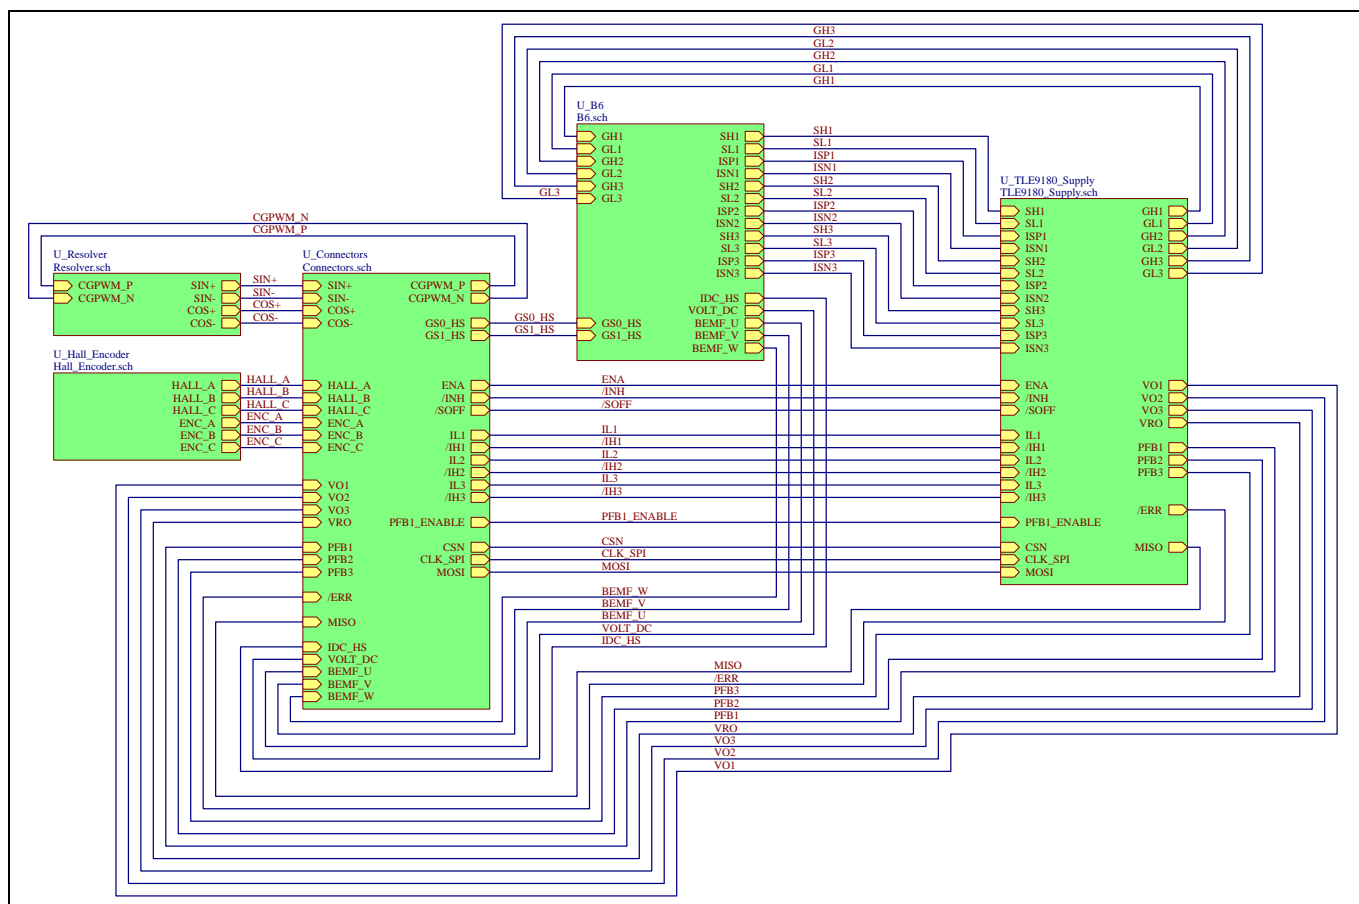
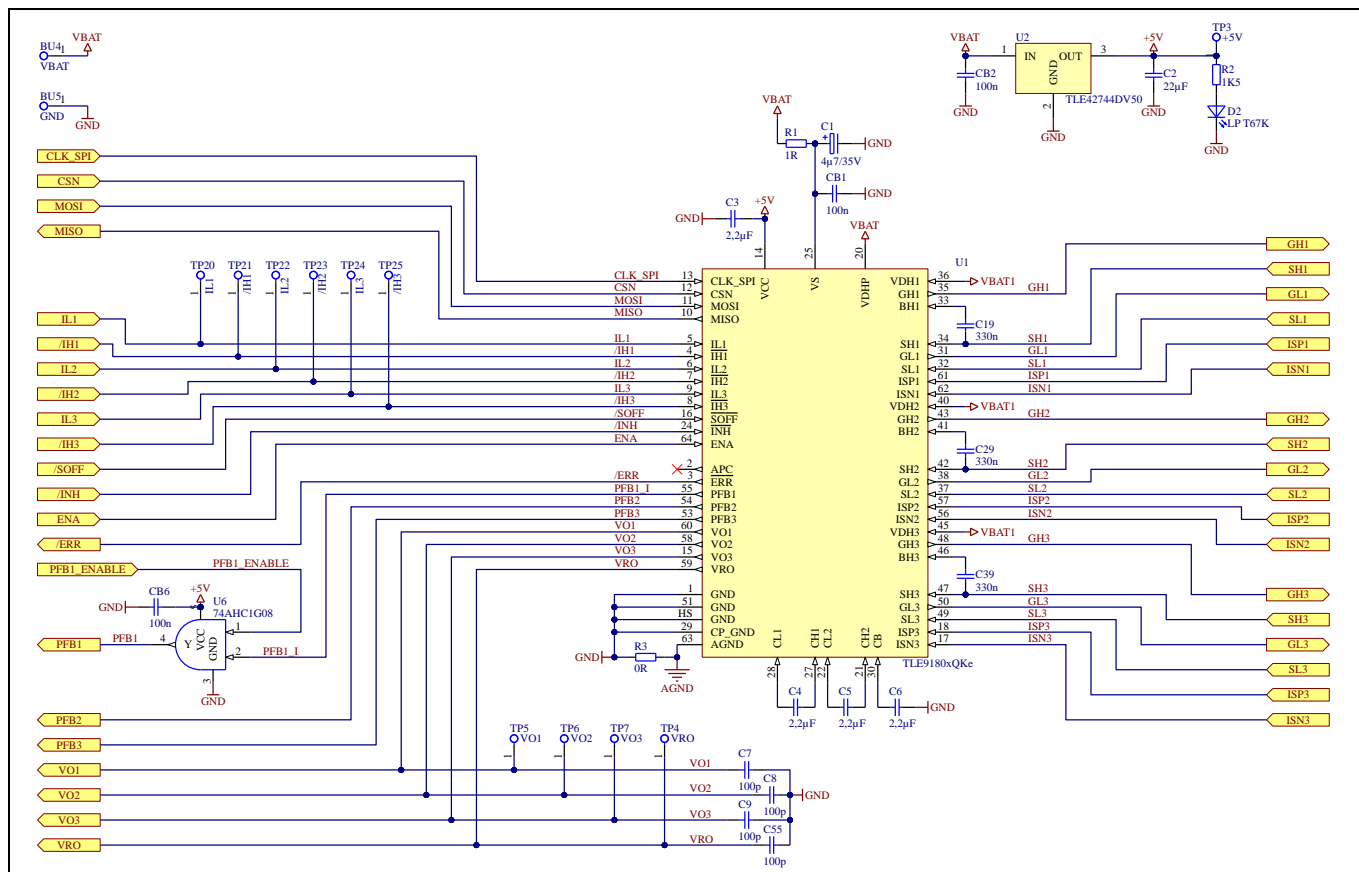
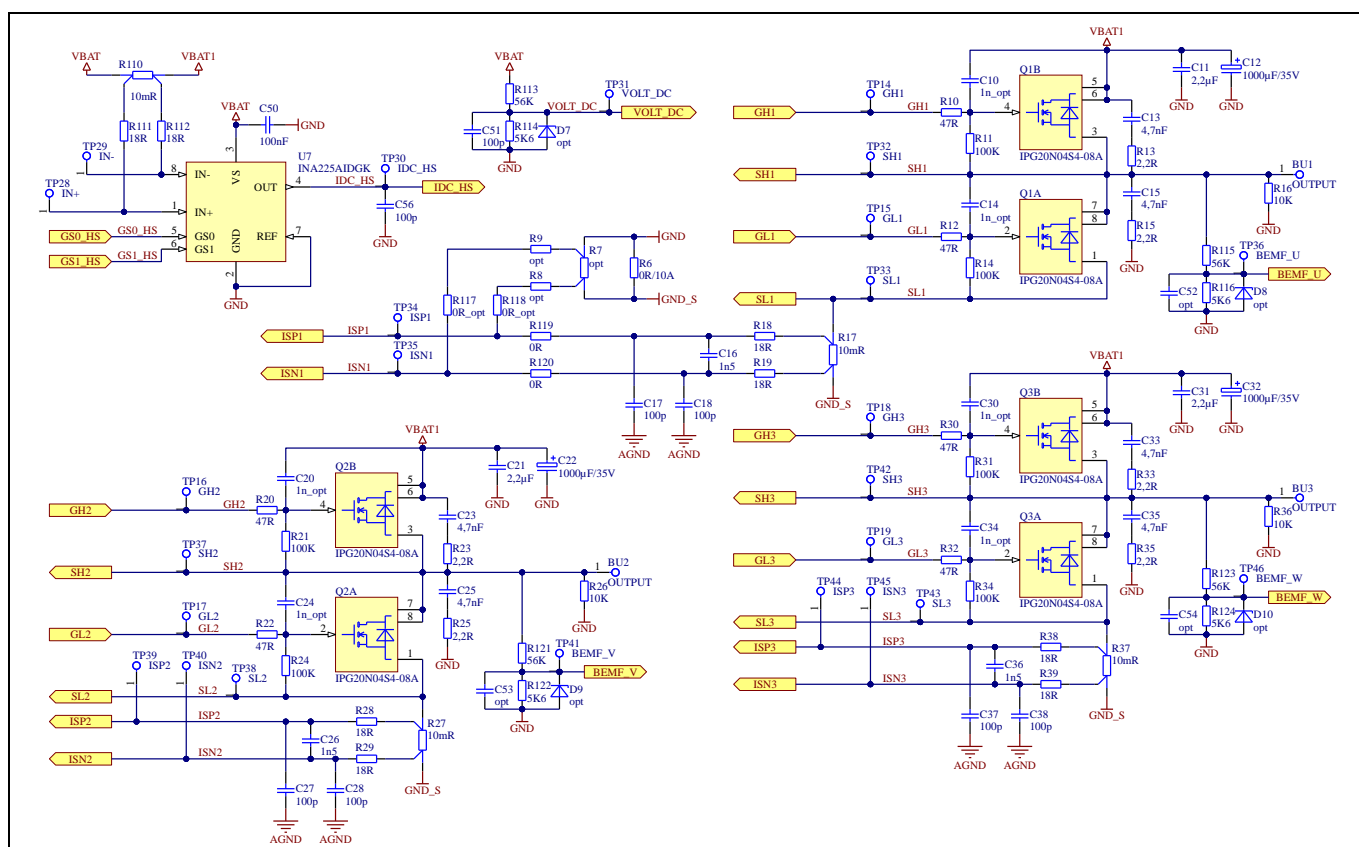

Figure 8 Schematic: Overview
Figure 9 Schematic: Power supply and three phase gate driver
Figure 10 Schematic: Power Bridge, current and voltage sensing
An overview of the board's schematics is shown in Figure 8. Basically, the schematic can be divided into five sub-blocks:
- the advanced gate driver and supply (shown in Figure 9)
Figure 9 depicts the schematic of the power supply and three phase gate driver (U_TLE9180_Supply block in Figure 8).
The 3-phase Bridge Driver IC needs 2 different supply voltages. The 12 V is supplied externally. The 5 V are generated internally via the Infineon TLE 42744D V50. The LED indicates the presence of the generated 5 V voltage. Additionally, TLE 42744D V50 provides 5 V for position sensor circuits, as shown in Figure 9.
The TLE9180D-31QK, shown in Figure 9, is an advanced gate driver IC dedicated to control 6 external N-channel MOSFETs forming an inverter for high current 3 phase motor drive application in the automotive sector.
Figure 10 depicts the schematic of the Power Bridge, current and voltage sensing (U_B6 block in Figure 8).
Table 8 provides the list of test points and related signals of schematic shown on Figure 10. Test points placement is shown on Figure 3.
For the Power Bridge, three dual N-channel MOSFETs IPG20N04S4-08A in a smart PG-TDSON-8-10 package have been selected, as shown in Figure 10.
The DC-link voltage is directly measured using resistive divider at the power board low power supply connection, as shown in Figure 10. The DC-link voltage signal is available at VOLT_DC pin of the control board signal connector BU6, as shown in Figure 4. The DC-link voltage signal could be used in motor control software for over and under voltage protection or for the compensation of the DC-Link voltage in the motor control loop.
The voltage across the high-side DC-link shunt resistor is fed into the INA225AIDGK inputs IN- and IN+, as shown in Figure 10. The INA225AIDGK, bidirectional current-shunt monitor, has programmable gain levels [6]. The high-side DC-link current sensing signal is available at IDC_HS pin of the control board signal connector BU7, while the gain selection pins GS0 and GS1 are available at control board signal connector BU7, as shown in Figure 4. The DC-link current sensing could be used in motor control software for monitoring, three phase current reconstruction or other purposes.
The motor control power board is designed based on three phase current sensing, while for low-side DC-link current sensing it needs hardware changes. The voltage across the three phase shunt resistors is fed into the TLE9180D-31QK shunt positive and negative inputs (ISP_x and ISN_x, where x = 1, 2, 3), as shown in Figure 10. The TLE9180D-31QK has 3 integrated current sense amplifiers (CSA). The outputs of the current sense amplifiers feed ADCs with an analog range from 0 V to 5 V. The offsets and gains of current sense amplifiers are programmable by using SPI [4]. Following gains of current sense amplifiers are possible:
The phase voltage is directly measured using resistive dividers at the phases, as shown in Figure 10. The phase voltage sensing signals are available at BEMF_U, BEMF_V, BEMF_W pins of the control board signal connectors BU6 and BU7, as shown in Figure 4.